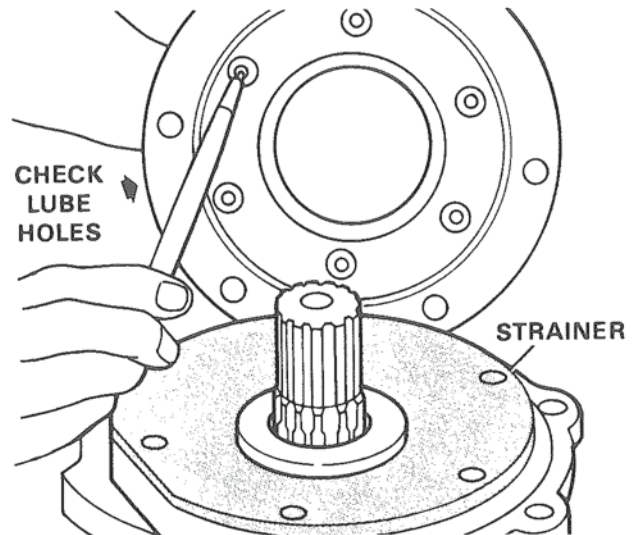

Figure 7. Removing Strainer.
4. Lift the lube oil strainer from the reduction unit adapter. Figure 7.